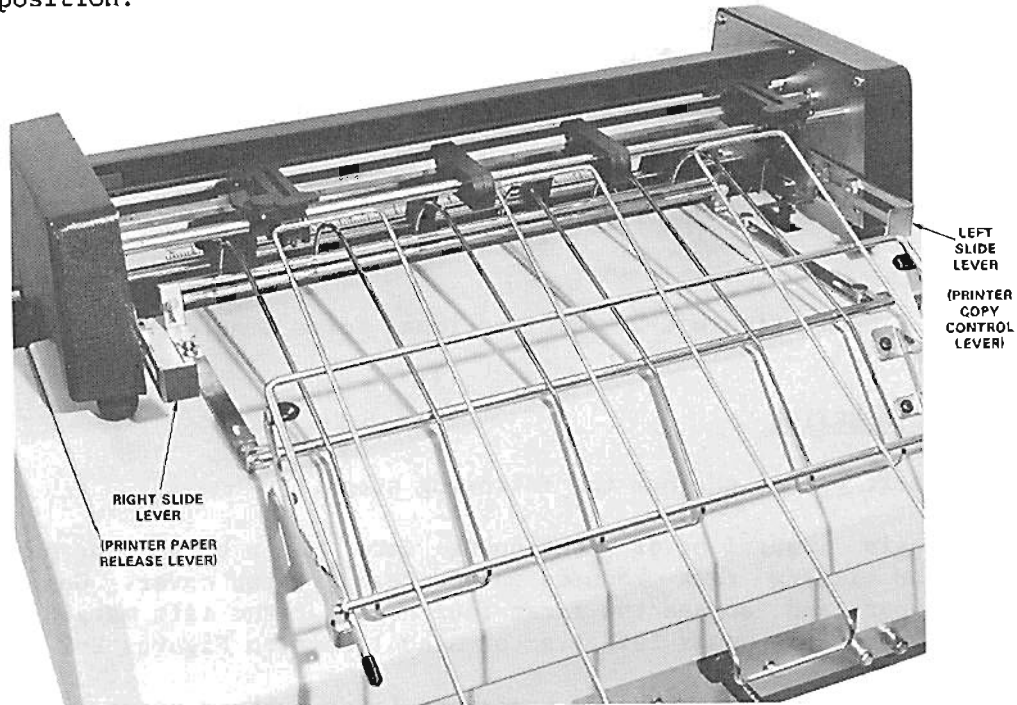

Figure E-3. Tractor Rack and Rod Assemblies
3. Rotate the platen to advance the paper over the tension rod and under the paper guide until the leading edge of the paper reaches the platen. Pull the Right Slide Lever back (away from the platen) to engage the feed rollers of the printer (refer to Figure E-3).
5. Continue the rotation of the platen until 5.0 inches (12.7 cm) of paper extend in front of the platen. Move the Right Slide Lever forward (towards the platen) to release the feed rollers (refer to Figure E-3).
8. Move the Left Slide Lever manipulating the printer's Copy Control Lever back as required for multi-part paper (refer to Figure E-3). For single sheet paper, the Left Slide Lever must be in the forward position.